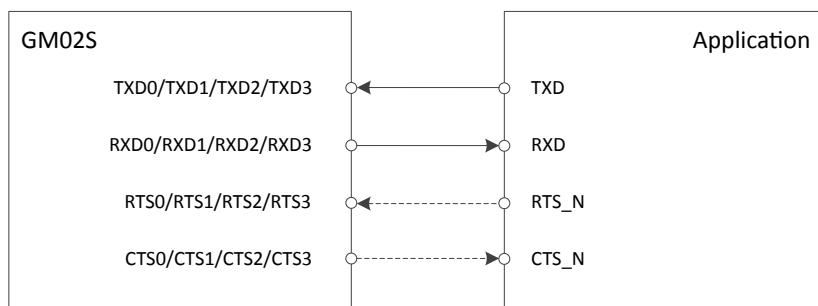

Figure 3. UART Convention and Flow Control
- CTS0, CTS1, CTS2 : Clear-To-Send signals of resp. UART0, UART1, UART2, (active low). To be connected to the CTS of the remote UART device. See Figure 3: UART Convention and Flow Control \(on page 6\).
- RTS0, RTS1, RTS2 : Ready-To-Send signals of resp. UART0, UART1, UART2, (active low). To be connected to the RTS of the remote UART device. Tie to a 1 kΩ pull-down when flow control is not used. If connected to an external part (like a RS 232 driver), the user must insure that the part presents a low level to the GM02S. See Figure 3: UART Convention and Flow Control \(on page 6\).
Figure 3: UART Convention and Flow Control \(on page 6\) represents the typical implementation for hardware flow control.